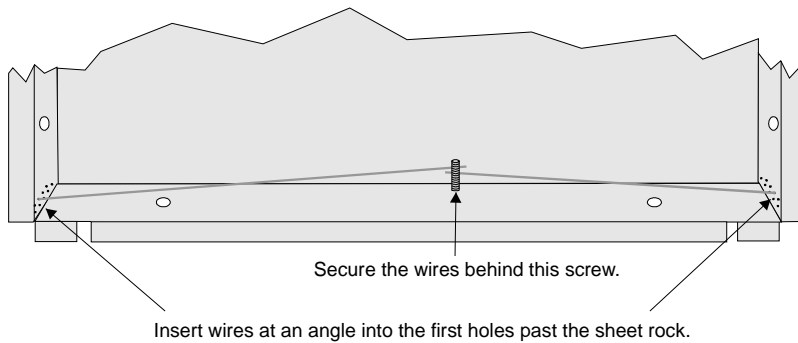

**Figure 4-13 Placement of Electrical Box for Flush Mounting**
1. Cut a hole in the sheet rock to the following dimensions: 8-1/4" w x 6-5/8" h. If an electrical box is used, the box must be 1-3/8" back from face of wall to accommodate the annunciator (see Figure 4-13).